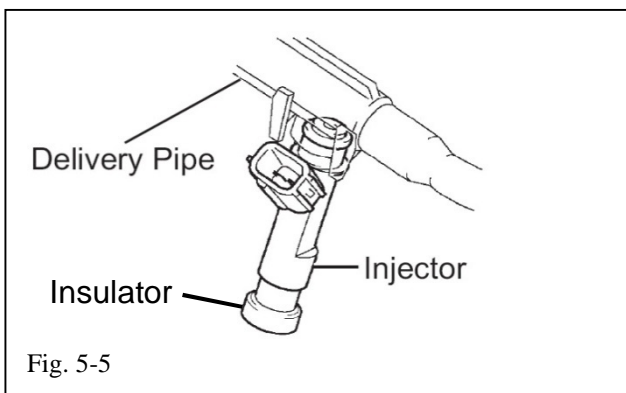

Fig. 5-5
- (d) Pull the 6 injectors out of the delivery pipe (Fig. 5-5). Discard the injectors as they will be replaced with new higher flow injectors. The old injectors should be saved for the customer.
- (1) Place a light coat of spindle oil or gasoline on the O-ring on the top of each new injector.